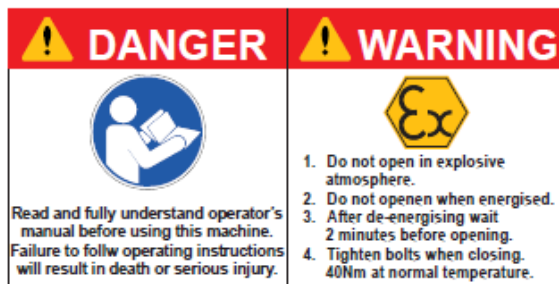

Figure 2 Analyser controller left side (control equipment)
4. Warnings for analyser controller left side. Refer to Figure 2.